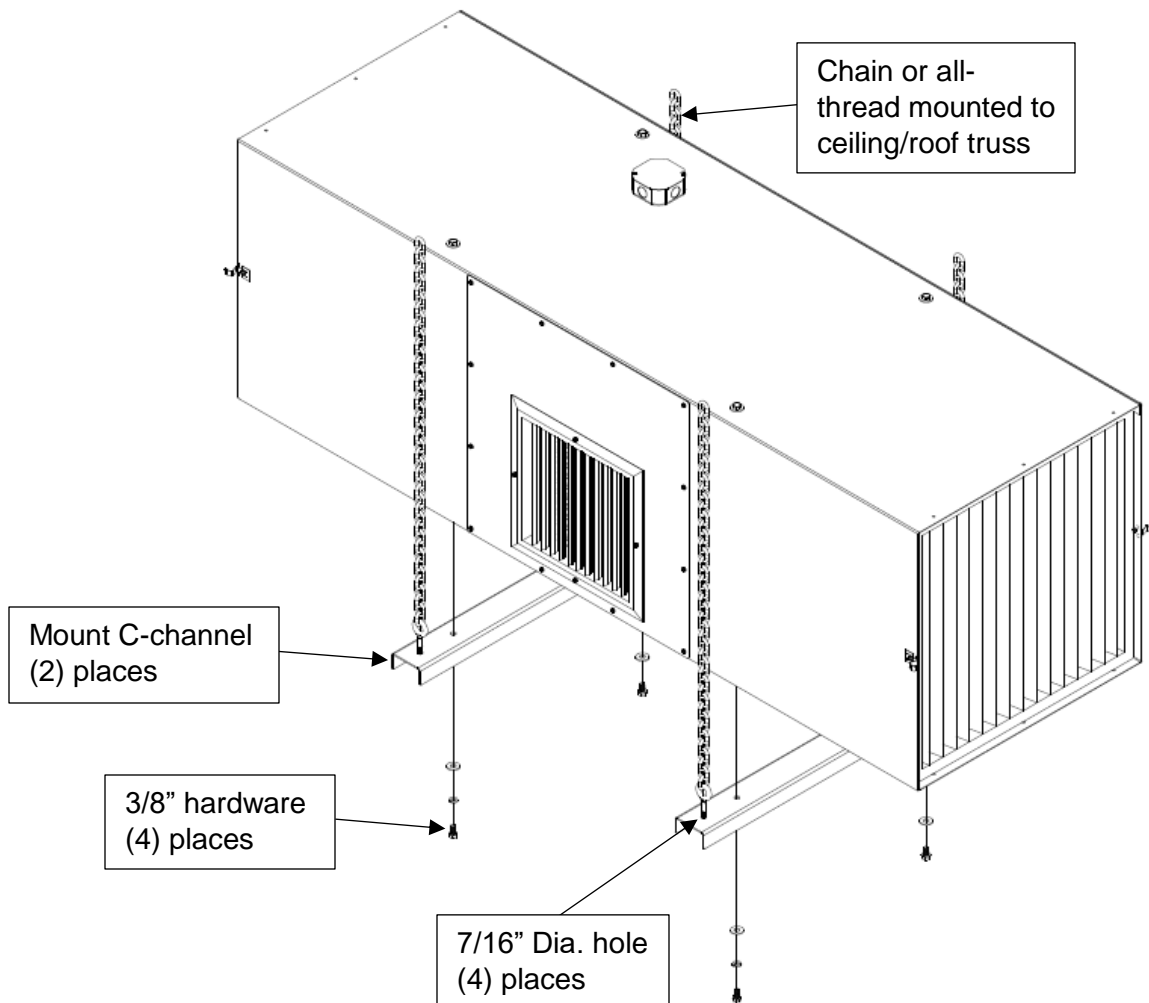

FIG. 2
4. Once channels are secured, the MXT3500 is ready to be hung in an appropriate location (See **FIG. 2**).